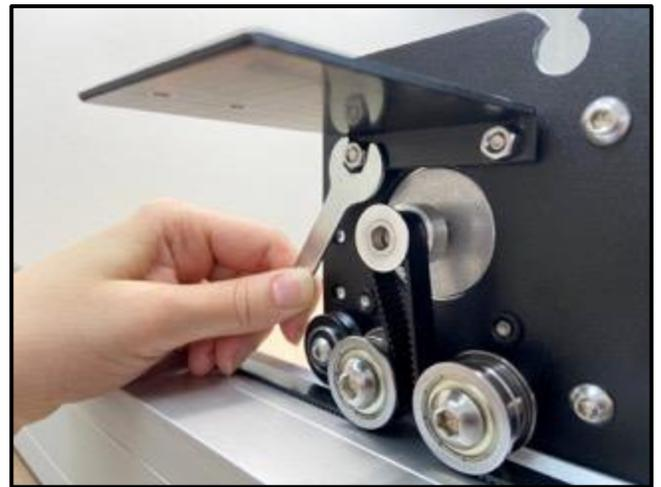

Figure 6-7
2. Use the 8mm wrench and two (2) M5 nuts to secure the head bracket to the two protruding M5x16mm socket head cap screws on the Y1-carriage above the Y1-motor pulley. See **Figure 6-7**.